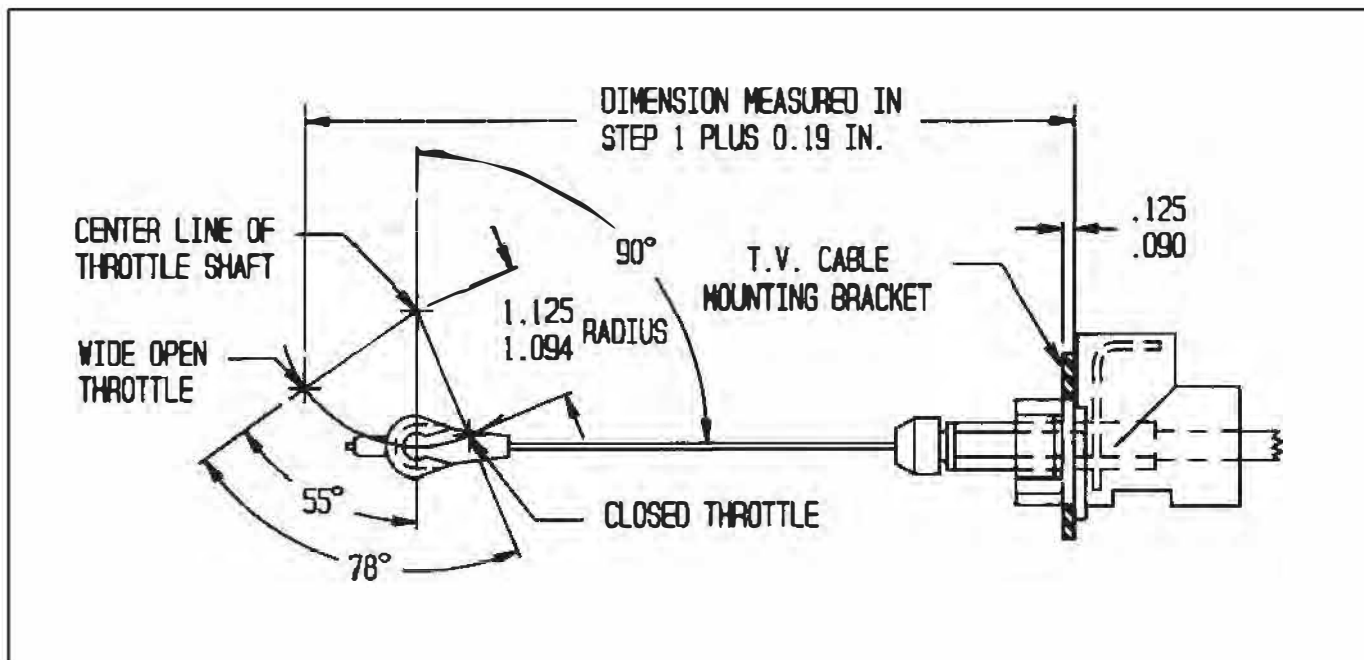

Figure 16
**STEP 2.** Add 3/16" (0.19 in.) to the measurement obtained in **Step 1**, this is the perpendicular measurement from the REAR FACE of the T.V. cable mounting bracket to the WIDE OPEN THROTTLE position of the T.V. cable connector pin on the throttle bellcrank (**See Fig. 16**).
**STEP 3.** The T.V. cable bellcrank must be perpendicular (90 degrees) to the T.V. cable when the throttle is 25 percent (1/4) open (**See Fig. 16**), this geometric relationship is critical to insure that the T.V. mechanism moves in the correct proportion to the throttle opening. The mounting location for the T.V. cable connector pin will have to be established on the throttle bellcrank at a radius of 1.094 / 1.125 in. There may a suitable existing hole at the correct radius on the throttle bellcrank, otherwise you will have to fabricate an attachment to the bellcrank that will properly locate the connector pin.